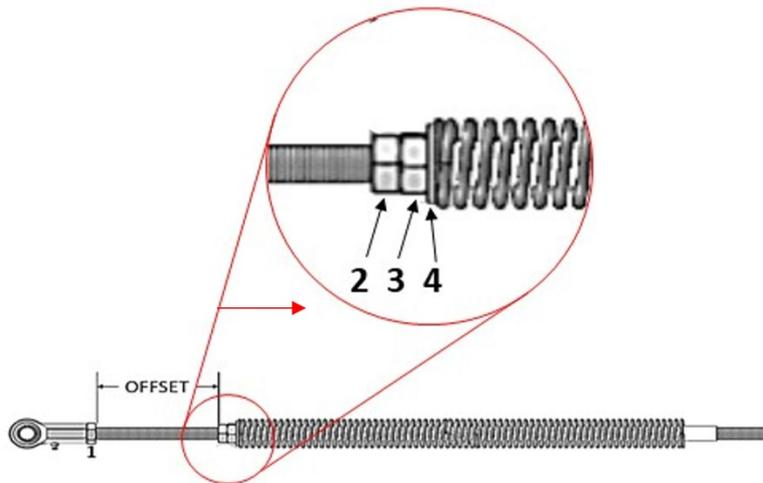

Figure 10: Hex Nut Offset
- After installing the clevis pin, the springs need to be tensioned. (The gate needs to be upright during this step.) Tension the springs by moving the hex nut, labeled 3 in Figure 10 down the threaded rod. This will compress the spring. When the hex nut labeled 3 seems to be in the desired position, move the hex nut labeled 2 in Figure 10 until it is firm against hex nut 3. Ensure the flat washer labeled 4 in Figure 10 is installed between hex nut and spring.